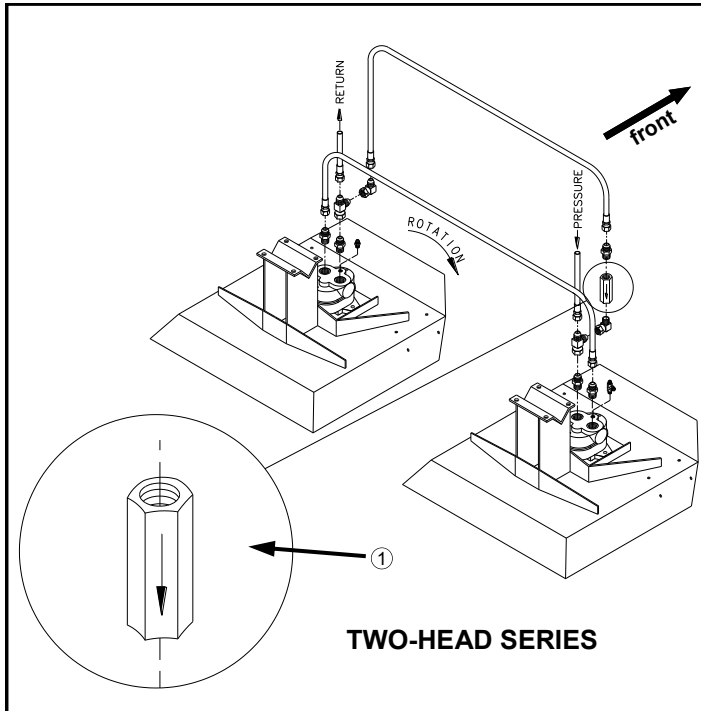
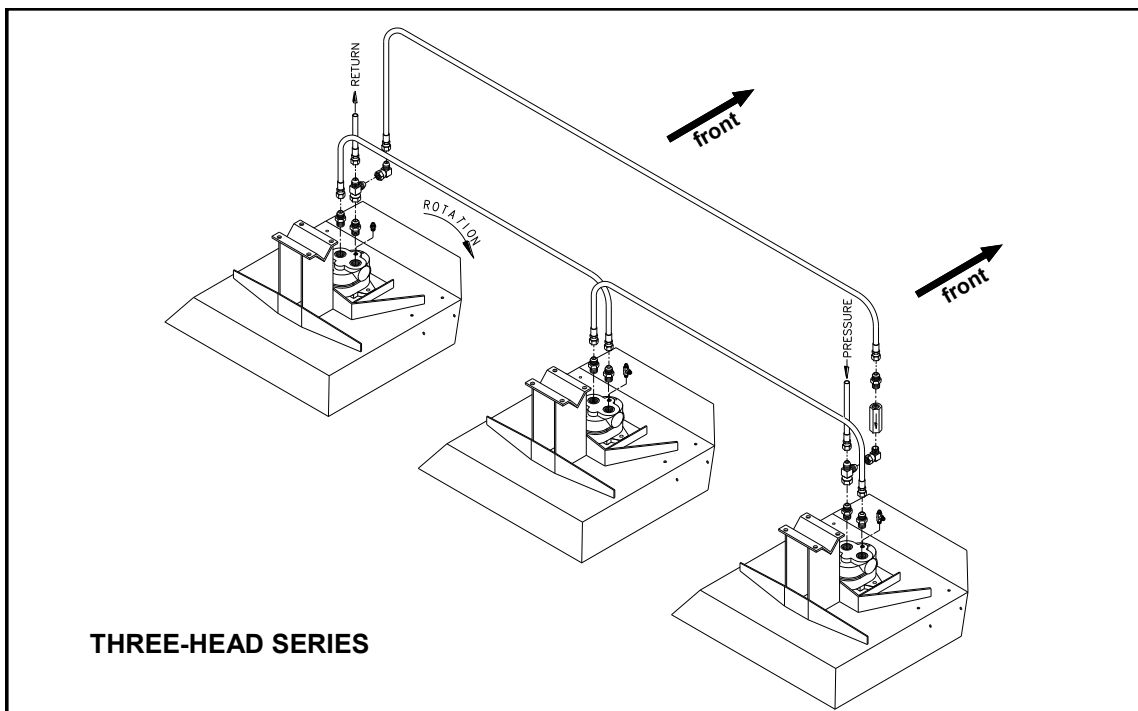

FIG 4.25
FIG 4.26
Hydraulic hoses on cutter heads should be hooked up so blades on heads mounted right of operator rotate according to figure 4.25 and figure 4.26 (clockwise from above). Refer to 204 DETASSELER Parts Manual for correct hardware, hose lengths, and hydraulic schematic.
Care should be taken when installing check valve (fig. 4.25, item 1) on cutter motor so the flow arrow is oriented correctly (either two-head or three-head series).